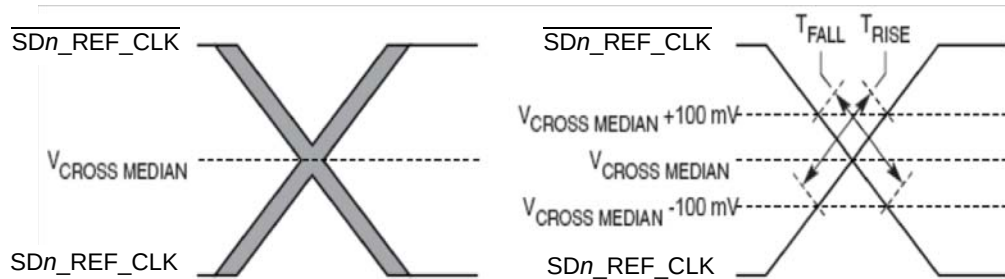

Figure 53. Single-Ended Measurement Points for Rise and Fall Time Matching
- Matching applies to rising edge rate for SDn_REF_CLK and falling edge rate for $\overline{\text{SDn_REF_CLK}}$. It is measured using a 200 mV window centered on the median cross point where SDn_REF_CLK rising meets $\overline{\text{SDn_REF_CLK}}$ falling. The median cross point is used to calculate the voltage thresholds the oscilloscope is to use for the edge rate calculations. The Rise Edge Rate of SDn_REF_CLK should be compared to the Fall Edge Rate of $\overline{\text{SDn_REF_CLK}}$, the maximum allowed difference should not exceed 20% of the slowest edge rate. See Figure 53.